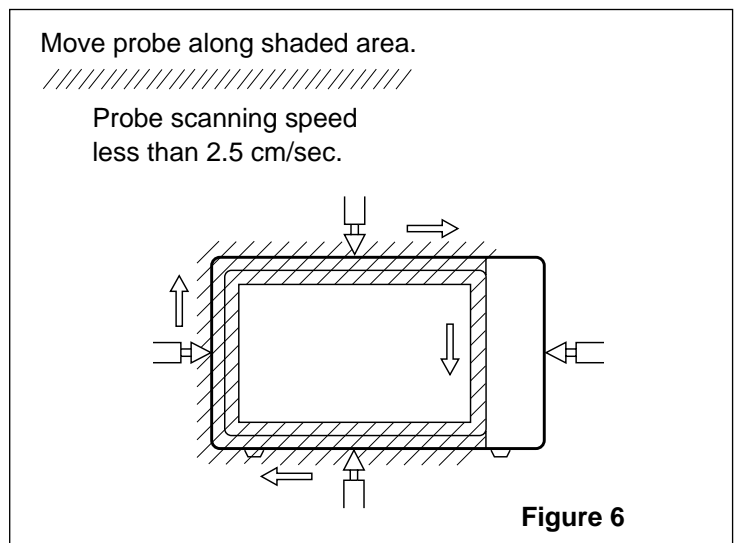

Figure 6
- (1) Pour 275±15cc of 20±5°C water in a beaker which is graduated to 600 cc, and place the beaker in the center of the oven.
- (2) Set the energy leakage monitor to 2,450 MHz and use it following the manufacturer's recommended test procedure to assure correct result.
- (3) When measuring the leakage, always use the 2 inch (5cm) spacer supplied with the probe.
- (4) Operate the oven at its maximum output.
- (5) Measure the microwave radiation using and electromagnetic radiation monitor by holding the probe perpendicular to the surface being measured. (See Figure 6)